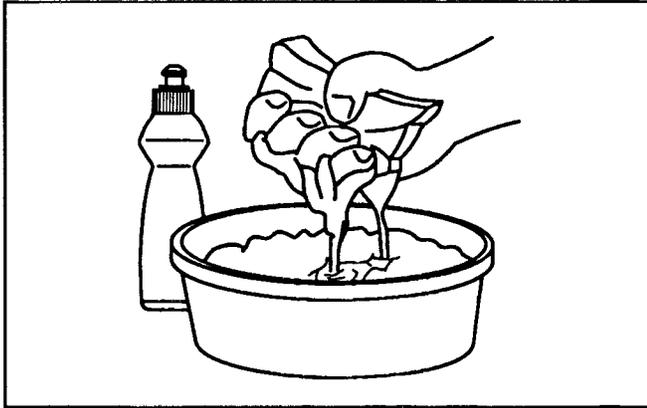

Figure 2
2. Wash air filter in laundry detergent. Squeeze filter to remove excess liquid and blot dry with a paper towel or rag (**Figure 2**).